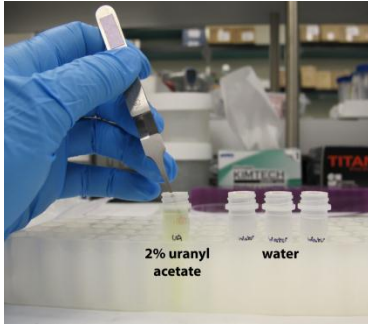

Figure 2. Immersing the grid in uranyl acetate.
- 4) Immerse the grid into the 2% uranyl acetate solution for 30 seconds (Figure 2)